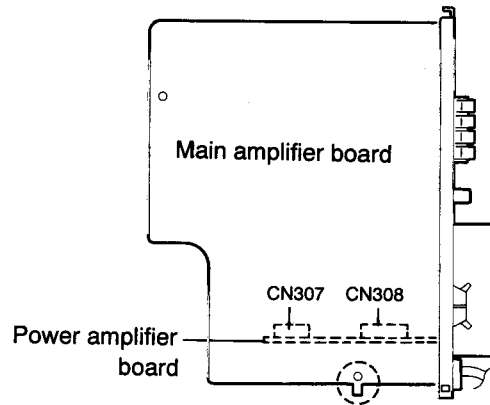

Fig.5-16
6. Disconnect the main amplifier board connectors CN307 and CN308 from the power amplifier board. (See Fig. 5-16)